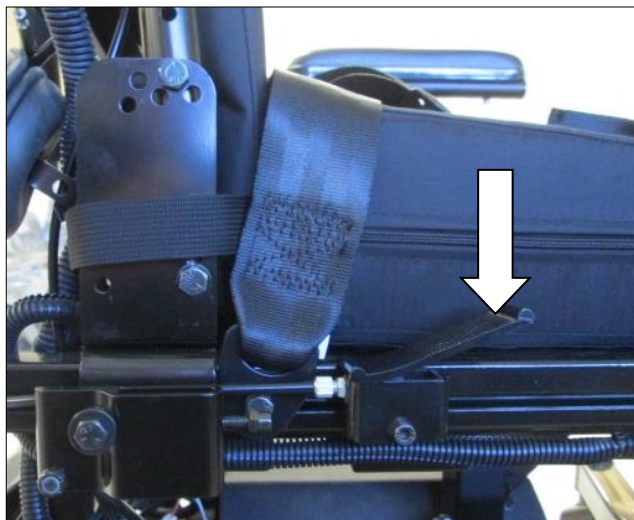

Figure 34-A: Pneumatic reclining back support.
- 1- Press the reclining lever located near the back of the seat (see Figure 34-A).
- 1- If your wheelchair has one power accessory control, use the control box located on the side (right or left) of the wheelchair and pull the switch back (see Figure 34-B). If your wheelchair has more than one power accessory, or if your back support is controlled via a joystick, use the control box joystick (see the R-Net user manual).